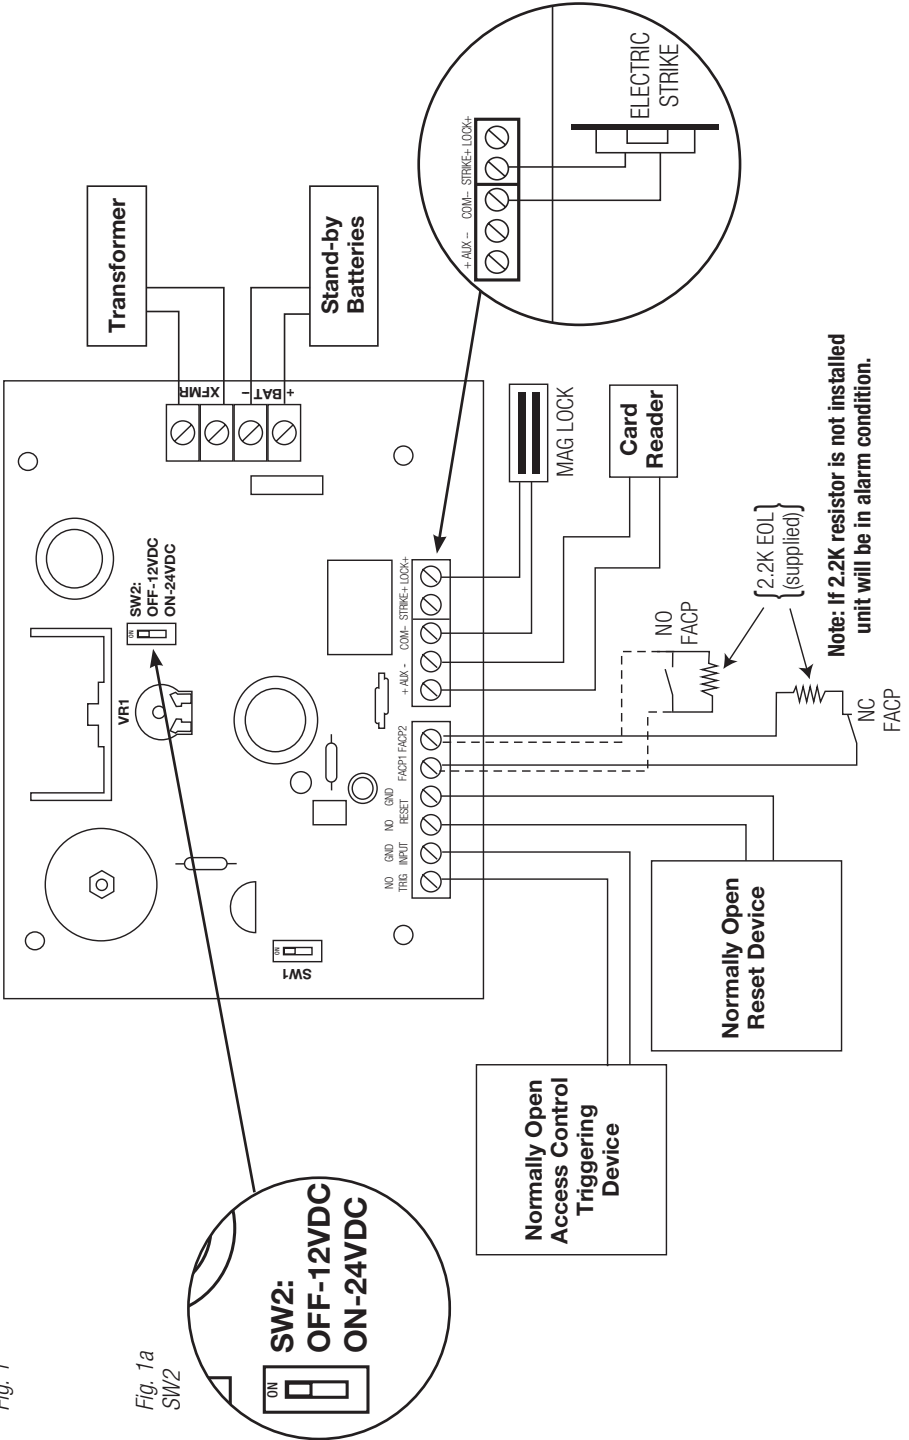

Fig. 1
5. Connect Fail-Safe locking devices to the terminals marked [COM -] and [LOCK+]. Connect Fail-Secure locking devices to the terminals marked [COM -] and [STRIKE +] (*Fig. 1 - Application Diagram, pg. 5*).
6. Connect normally open access control device (i.e. card reader, request to exit device, access control system) to the terminals marked TRG INPUT [NO, GND] (*Fig. 1 - Application Diagram, pg. 3*).
7. Connect FACP interface to the terminals marked [FACP1 and FACP2]. Wire the 2.2K resistor (supplied) in series for a normally closed input or in parallel for a normally open input (*Fig. 1 - Application Diagram, pg. 5*). If required, set the latching FACP interface mode by turning SW1 ON (*Fig. 1a - Application Diagram, pg. 5*) and connect a normally open reset device to the terminals marked RESET [NO, GND].